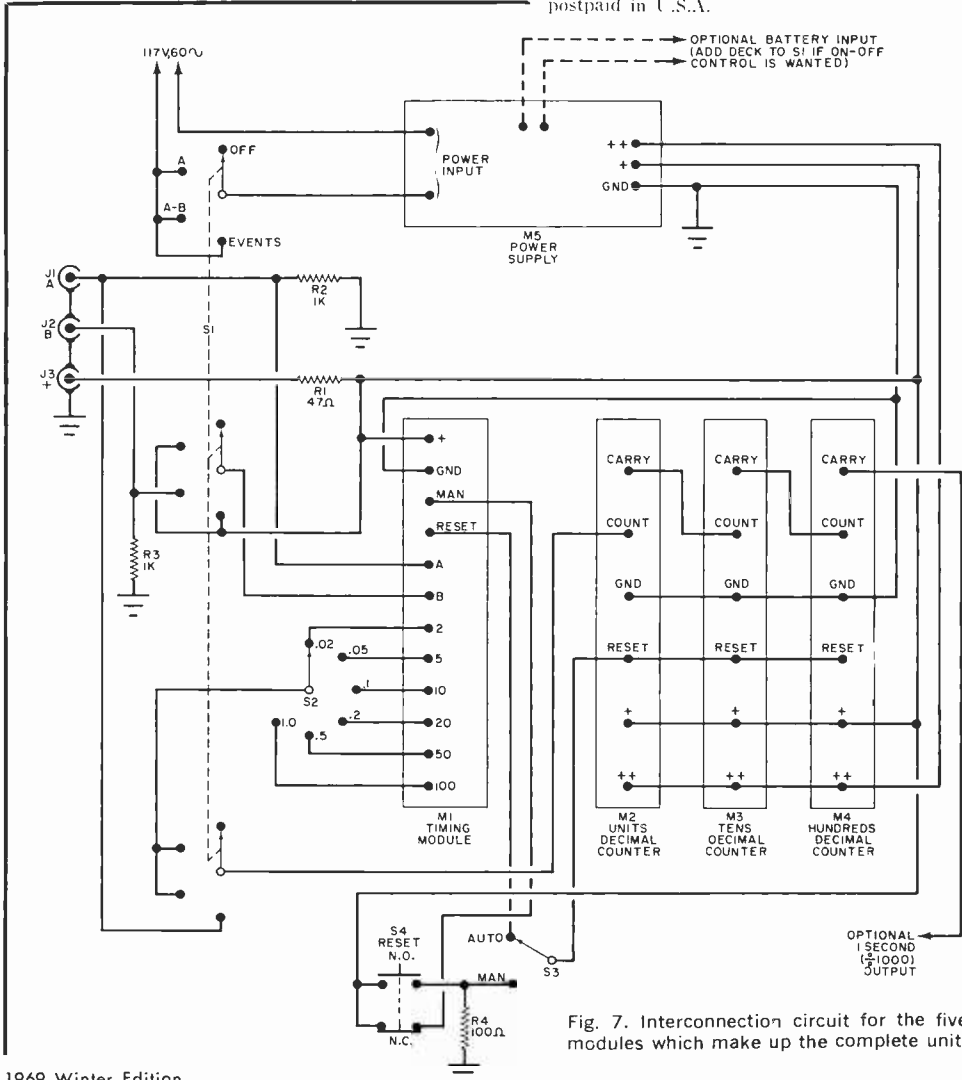

Fig. 7. Interconnection circuit for the five modules which make up the complete unit.
Overall Assembly. Figure 7 is the complete stopwatch interconnection schematic diagram. The overall assembly
Wire the various modules and switches together in accordance with Fig. 7. Use color-coded leads, and note that the deci-
*A few signal-conditioning circuits are shown in Fig. 7 of the “Counting Unit” article which appears on page 80. Figure 7(a) and (b) shows two approaches with mechanical switches, while Fig. 7(c) and (d) illustrates two methods of signal conditioning with sine-wave generators.
If desired, the optional one-second output line in Fig. 7 can be used to drive an external "seconds" counter. -30-